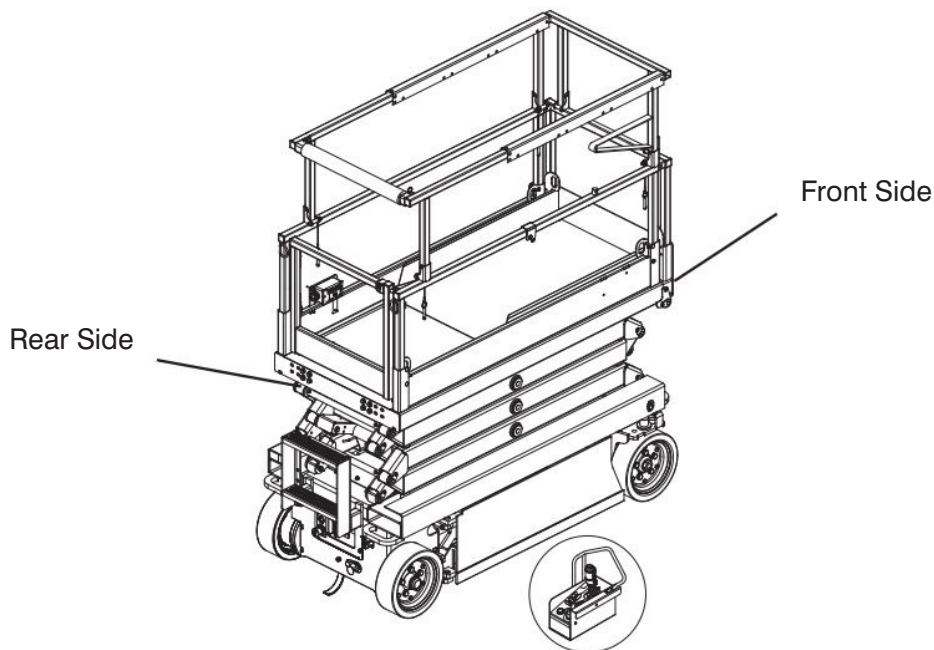

Figure 3-9. Control Box with Long Cable Outside Platform
- **Ensure the operator and control box console are properly oriented in the direction the aerial platform is facing (see Figure 3-9).**